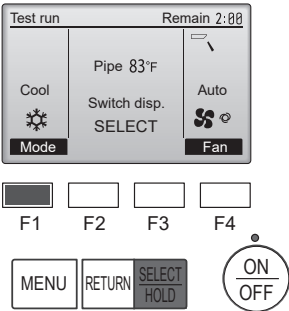

Fig. 7-5
- ① Press the [F1] button to go through the operation modes in the order of “Cool” and “Heat”. (Fig. 7-5)
- ② Press the [SELECT/HOLD] button and open the Vane setting screen.